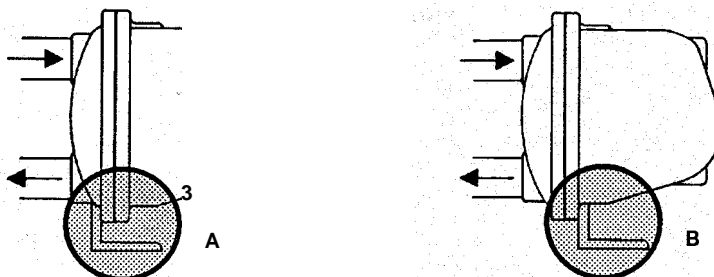

FIGURE 5. Optional "M" and "MS" Anchoring Bracket
- 3) Set the unit as shown in Figure 1 or 2, with the flange resting on the floor or on a platform for support. Then install and tighten the inlet and discharge piping to secure the unit in its operating position. IF THE LINE PRESSURE EXCEEDS 30 PSIG, install an anchoring bracket as shown in Figure 5.